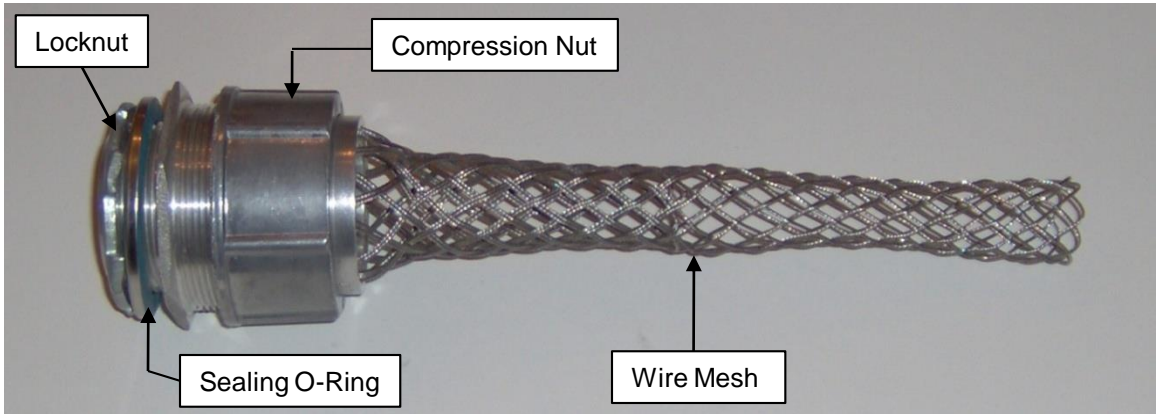
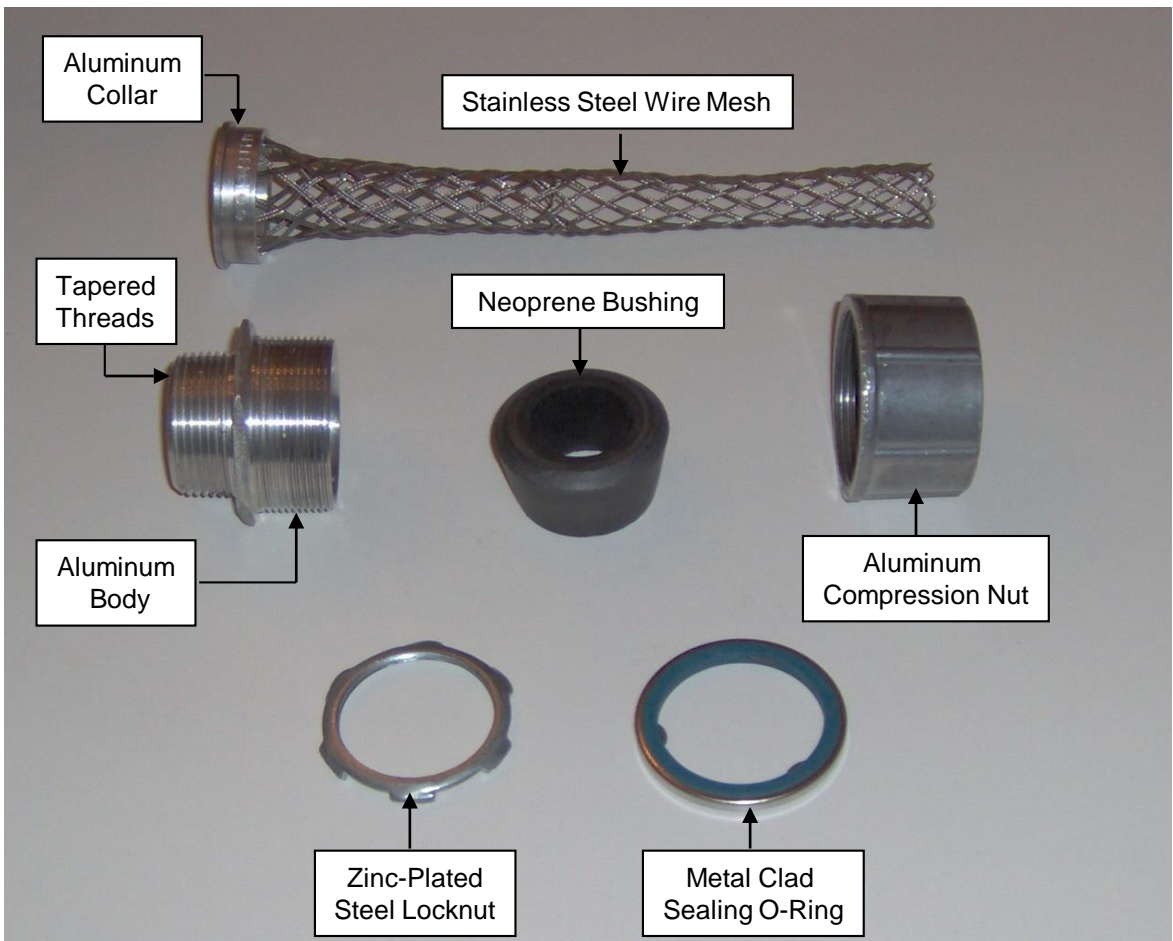

Figure 1
Figure 2
5.1 See Fig. 1 and Fig. 2 for Liquid-Tight Kellems Grip layout.